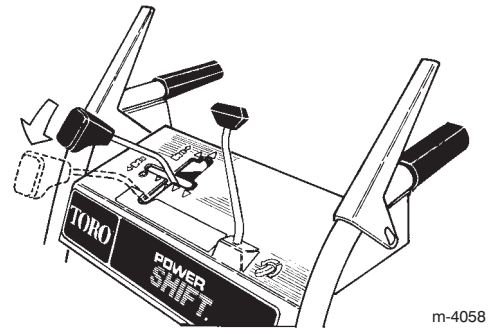

Figure 11
8. Manually move the wheels to the *rear* Power Shift position by lifting up on the handgrips and moving the shift control fully forward (Fig. 11).